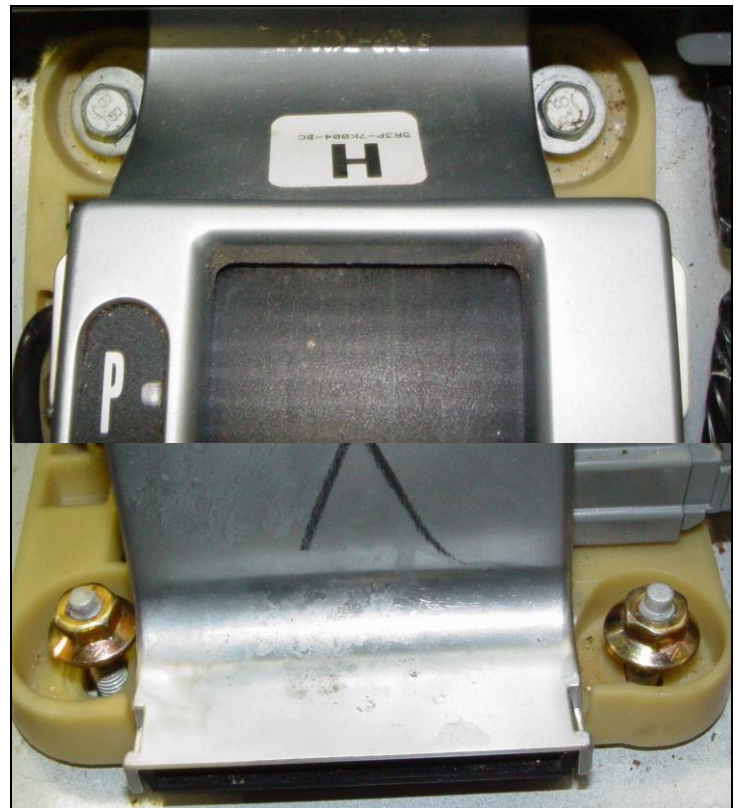

Figure 4
Step 9: From inside remove the (2) bolts and (2) screws that are holding the shifter down and remove shifter. (Figure 4).
Step 10: Install new TCI shifter and carefully snug the (2) bolts and (2) nuts down in a criss-cross manner.